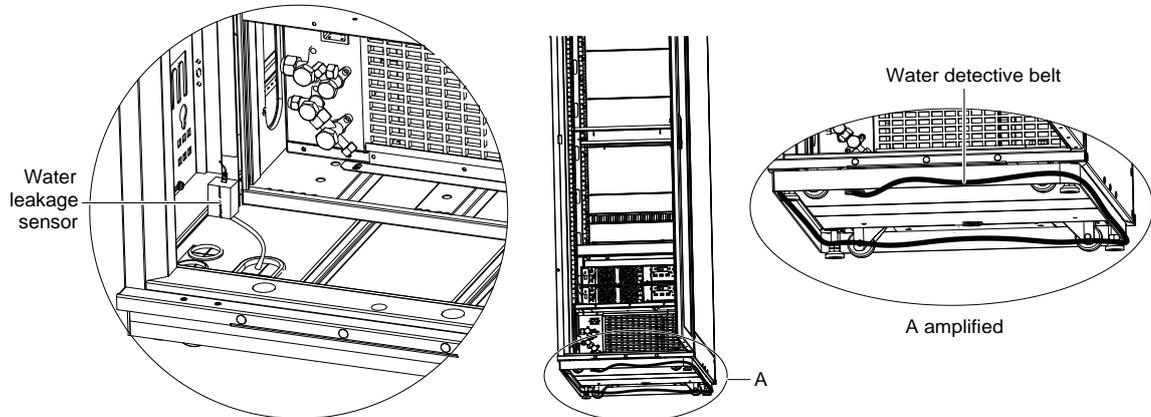

Figure 3-24 Installing water leakage sensor
- 3) Lay the detective belt at the bottom of the cabinet, as shown in Figure 3-24.